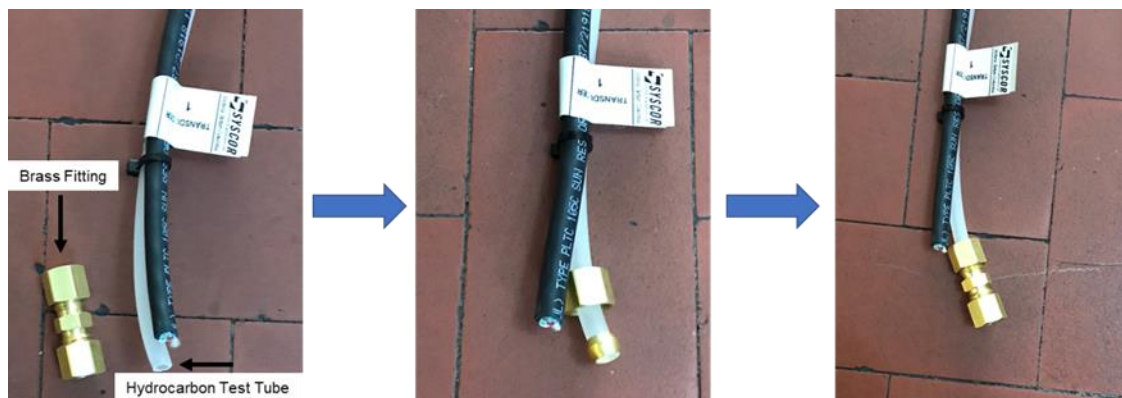

Figure 3: Diagram presenting step-by-step commissioning of the *in-situ* testing tube
2. Slide one end of the brass fitting over the tube, followed by the ferrule (Figure 3).